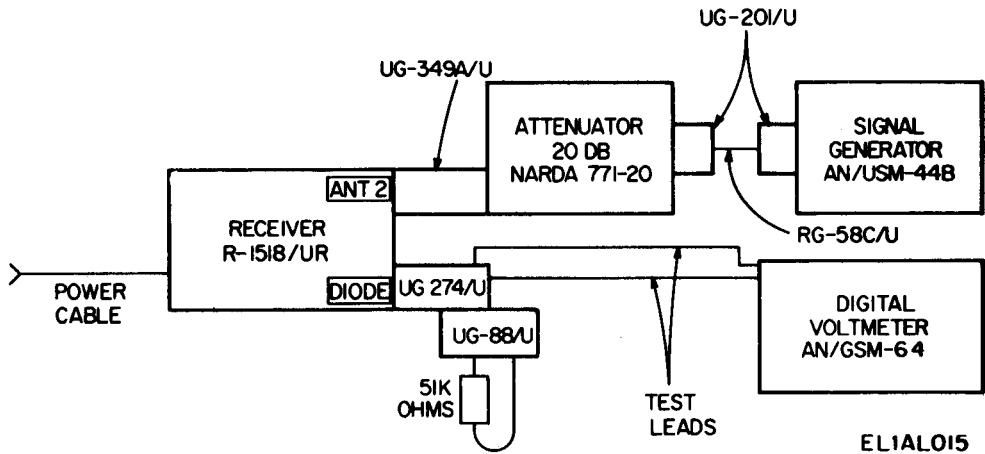

Figure 6-7. Diode output test connections.
(1) Perform a(1) above.
(2) Connect the test equipment as shown in figure 6-7.